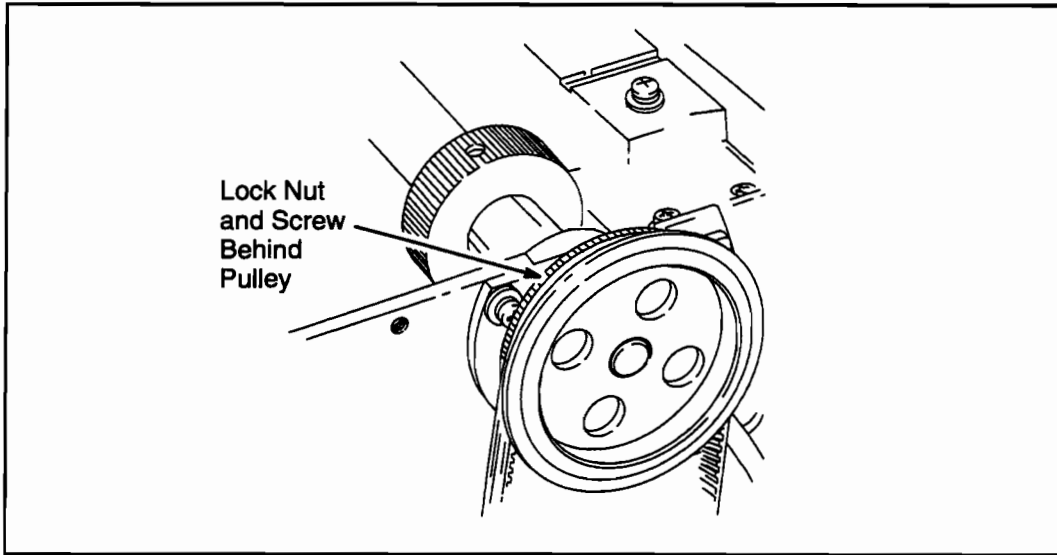

Figure 6-74. Roller-Shaft Pulley Removal
1. Switch the plotter OFF (O) and disconnect the ac power cord and interface cable.
8. Using a 3 mm hex wrench, remove the drive roller shaft pulley screw. Remove the gear. See Figure 6-74.